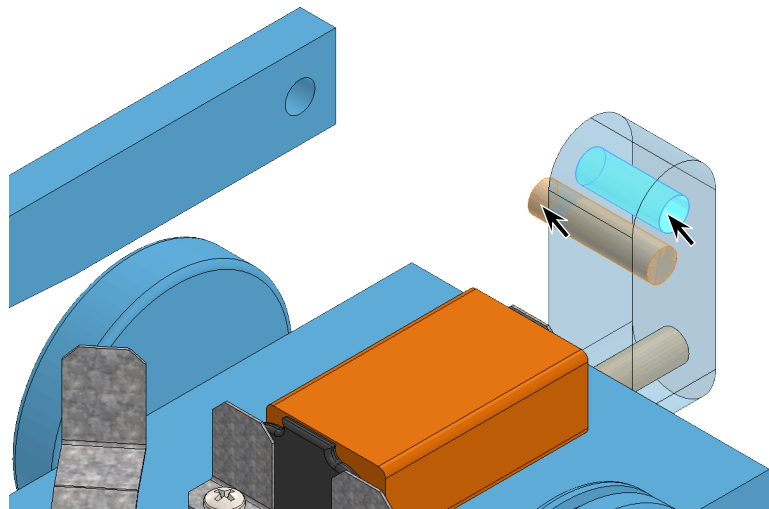

Fig. 13
Step 4. Click **cylindrical face of hole in Arm** and **cylindrical face of Axle**, **Fig. 13**.